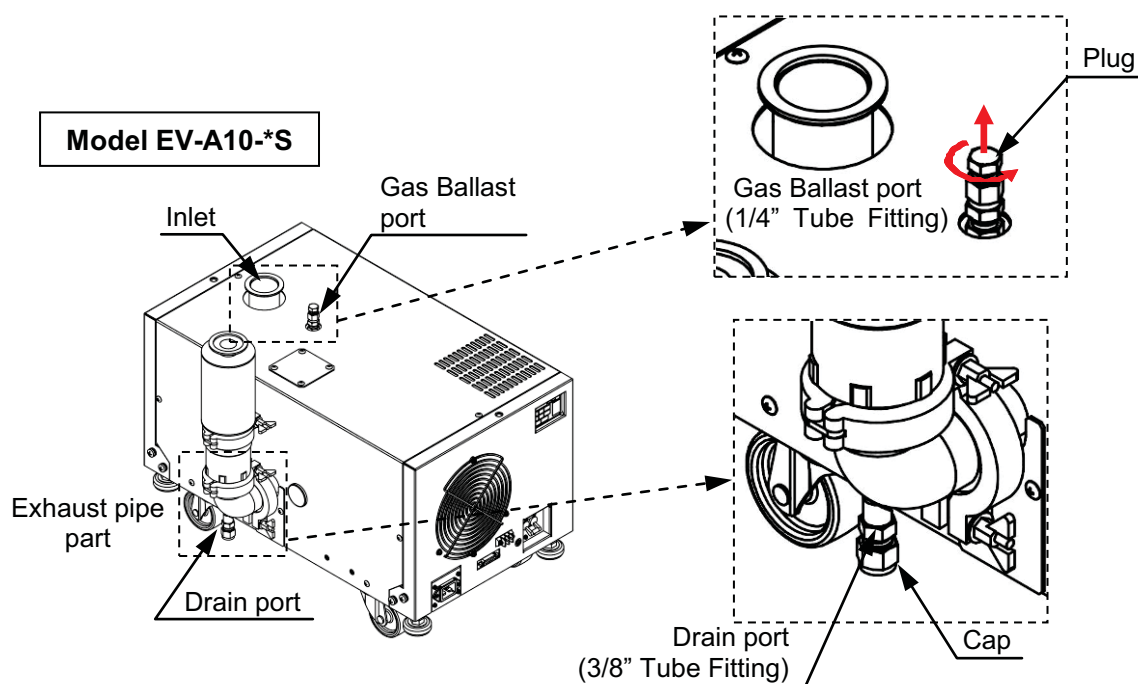

Fig. 5.2 Gas Ballast port and Drain port
- ✓ When introducing a condensable gas, such as water vapor, into the pump, remove the plug of the gas ballast port and operate a pump. (See Fig. 5.2)
- ✓ On a regular basis, please discharge condensation liquid collected on into the exhaust pipe part from the drain port. (See Fig. 5.2)